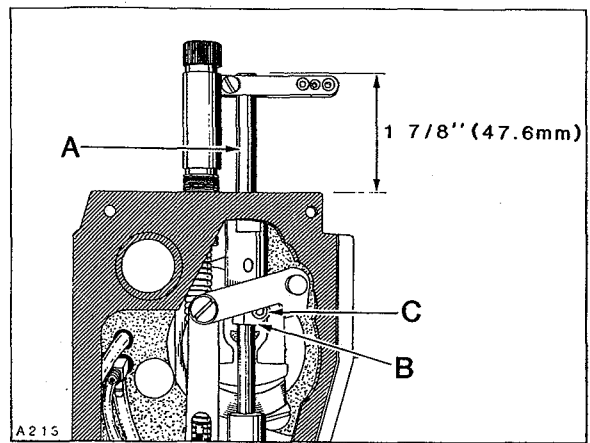
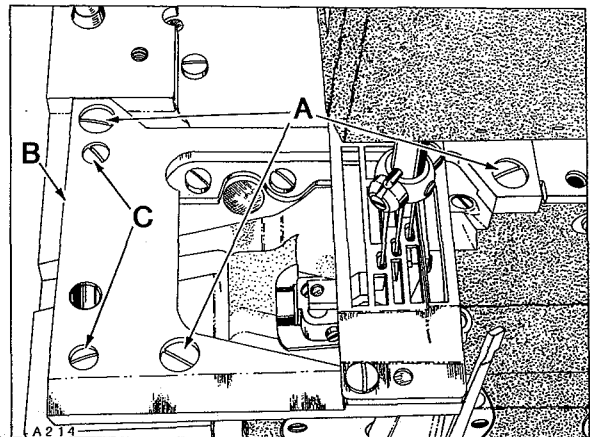

Fig. 7
Fig. 8
Insert a new set of needles. As a temporary setting, the TOP of needle bar (A, Fig. 7) should be approximately 1 7/8 inches (47.6mm) from the TOP of upper needle bar bushing when needle bar connection (B) is positioned at TOP of STROKE as shown in Figure 7.
Rotate handwheel to ensure that needles center in the needle holes of throat plate as shown in Figure 8. Adjustment can be made by loosening screw (C, Fig. 7) slightly, allowing needle bar to be rotated as required, while being careful to maintain the temporary height setting and tighten screw (C) AS SPECIFIED. An additional 4-way directional adjustment of the throat plate can be accomplished as follows:
IMPORTANT: Adjustment of throat plate must be coordinated between needles and feed dog; refer to "FEED DOG SETTINGS". Loosen three screws (A, Fig. 8) in throat plate support (B). Loosen two screws (C) which secure locating ferrules, allowing the throat plate support to be repositioned slightly. Tighten screws (C) first, then screws (A).